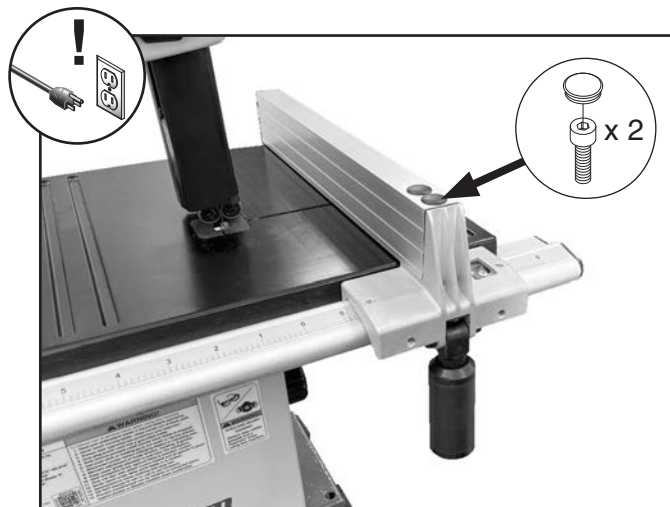

Figure 31. Location of cover caps and fence adjustment cap screws.
5. Remove (2) cover caps and loosen (2) fence adjustment cap screws (see **Figure 31**).